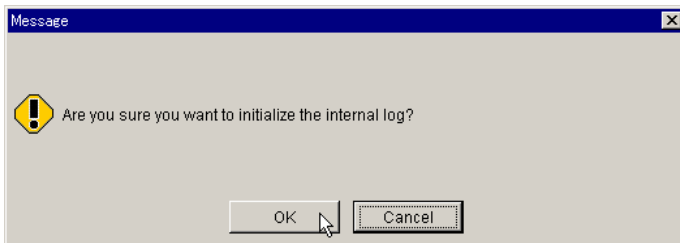

Figure 4.21 Audit Log Initialize Confirmation Message
5. Select **OK** on the confirmation message (see Figure 4.21).